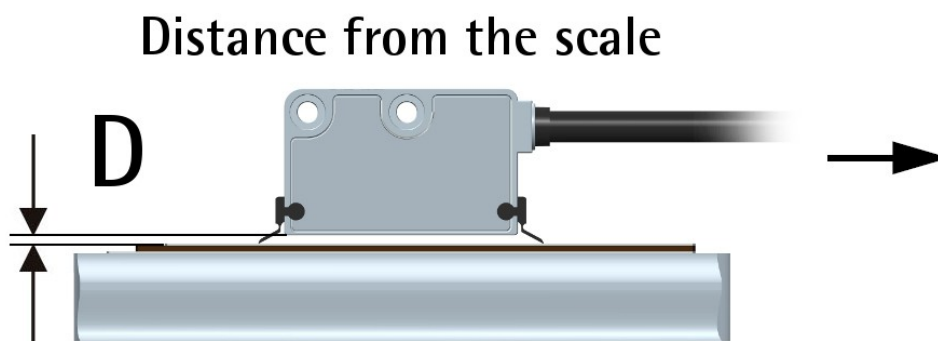

Figure 1 - Encoder / tape mounting gap
You can mount the readhead in both directions over the tape. The arrow in Figure 1 indicates the **standard counting direction** (the rising edge of A signal leads the rising edge of B signal) when the sensor moves in the direction indicated by the arrow; further information in the "4.8 Counting direction" section on page 20.
The distance D (see Figure 1) between the bottom of the encoder and the MT50 magnetic scale must be as follows:
The positive counting direction (the rising edge of A signal leads the rising edge of B signal) is achieved when the sensor moves on the tape according to the arrow shown in Figure 1. For further information see the "4.8 Counting direction" section on page 20.
3.7 Optional cleaning wipers (Figure 1)